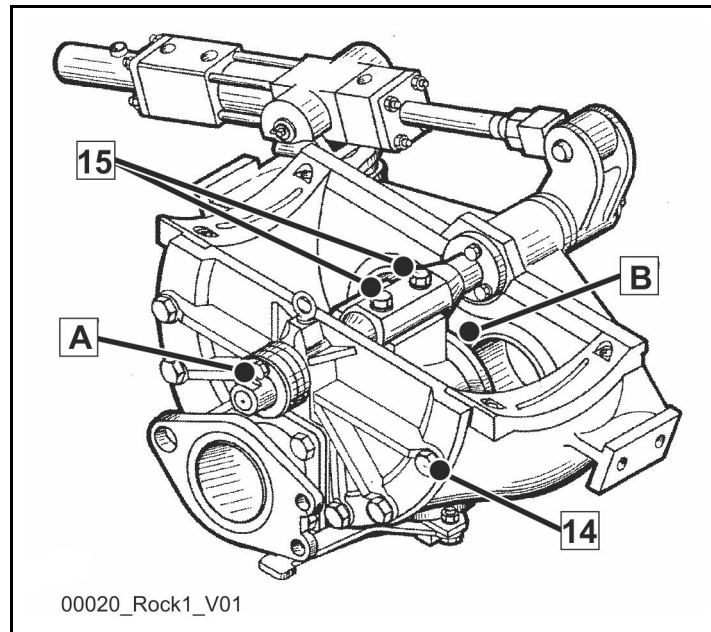

Fig. 168
Regularly make sure that the cover screws (14) and clamping screws on the swivel head (15) are tight, in accordance with the maintenance schedule (**Fig. 168**).
Caption (Fig. 168)
The cutting ring and wearing insert on the housing lining are worn unevenly due to external influences (e.g. varying types of concrete) and different stresses in sub-areas (area "B", (**Fig. 168**)).